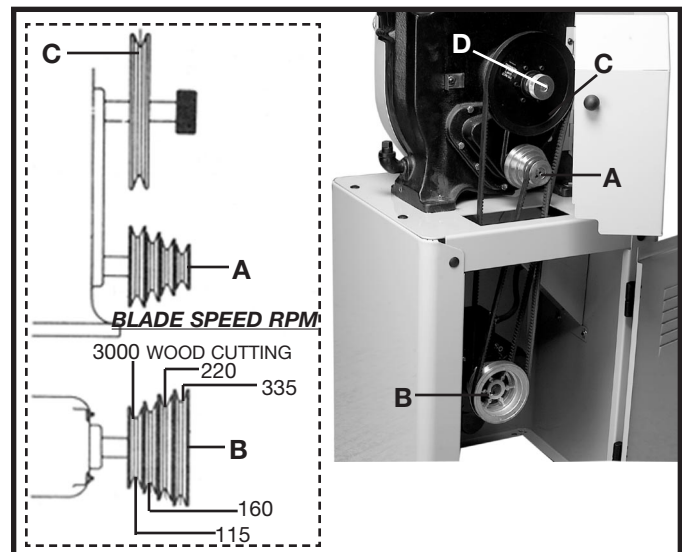

Fig. 60
Blade speeds of 115, 160, 220, 335, and 3000 SFM are available by simply interchanging the positions of the motor pulley and the gear box pulley. Fig. 60 shows the motor pulley (A) positioned on the gear box shaft and the gear box pulley (B) positioned on the motor shaft. With the long belt positioned on the inside groove of the pulleys (A) and (B) Fig. 60, speeds of 160, 220, and 335 SFM are obtained when the shifter knob (D) is pushed in.